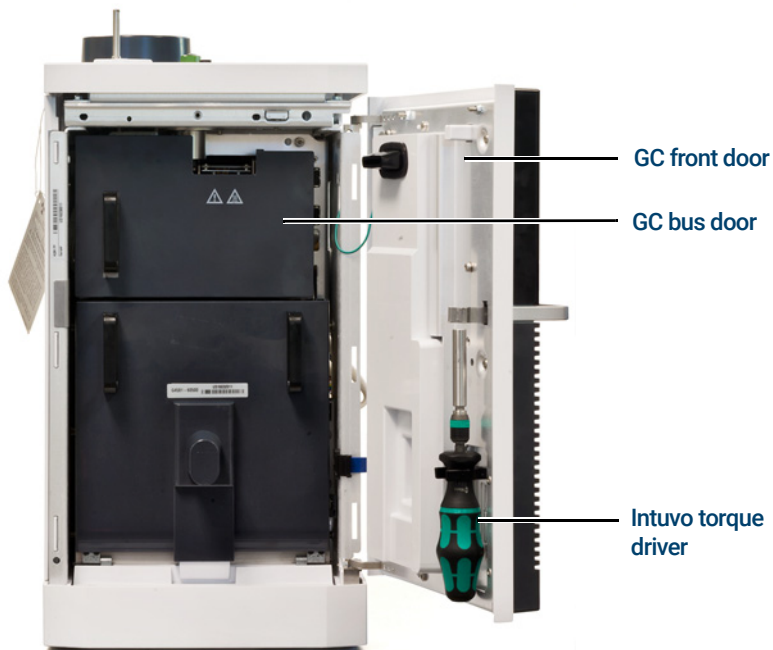

Figure 2. GC front door, bus door, and Intuvo torque driver
- a Open the GC front door. See **Figure 2**.